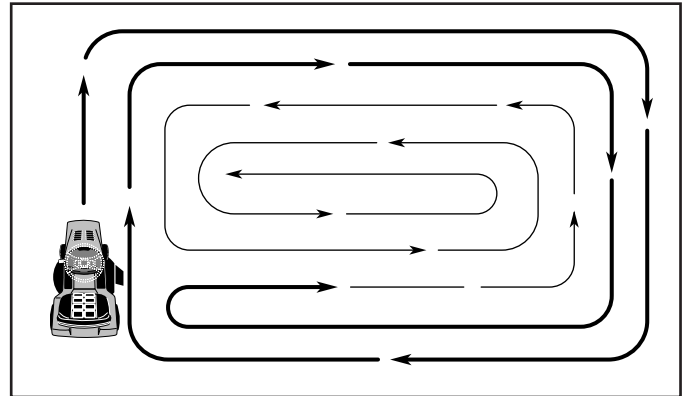

FIG. 15
## TO TRANSPORT (SEE FIG. 15)
- When mowing large areas, start by turning to the right so that clippings will discharge away from shrubs, fences, driveways, etc. After one or two rounds, mow in the opposite direction making left hand turns until finished (See Fig. 15).